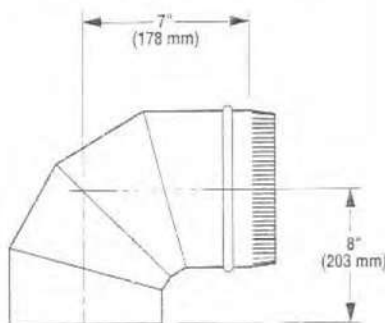

Figure 26
A. Analyze the vent routing and determine the types and quantities of sections required. Venting is available in 10-3/4" (273 mm), 16-3/4" (425 mm) and 34-3/4" (883 mm) net section lengths. Make allowances for elbows as indicated in Figure 26. Maintain a minimum 2" (51 mm) clearance to combustibles on the vertical sections. Clearances for the horizontal runs are: 3" (76 mm) on top, 2" (51 mm) on sides, and 1" (25 mm) at the bottom.
F. Next, slip the outer section over the inner and onto the outer collar, bottoming out at the bead. Use two (2) sheet metal screws to secure the 7" (178 mm) outer section as shown in Figure 26.
G. To add additional sections, start with the 4" (102 mm) inner section. Slide it over the inner vent from the previous section; a 1-1/4" (32 mm) overlap is required. Seal with high temperature sealant. Slide the 7" (178 mm) outer section over the previous section and secure with two (2) sheet metal screws.